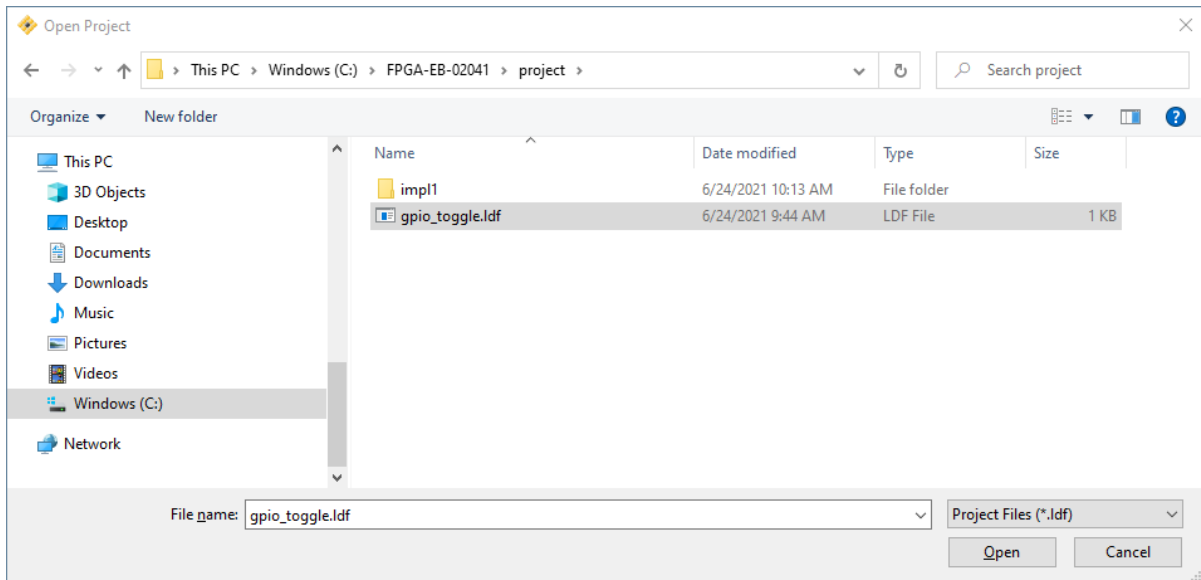

Figure 4.1. Diamond Software – Open Project Dialog Box
3. In the **Open Project** dialog box, select the *gpio_toggle.ldf* file and click **Open**, as shown in Figure 4.1. This opens the demo project.